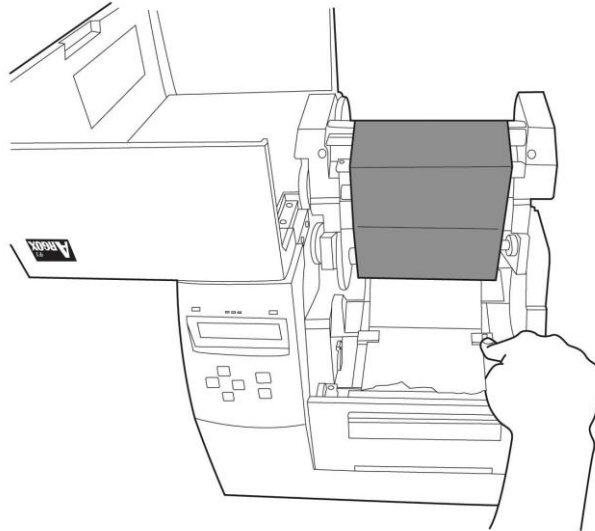

Figure 11
5. Hold the print head module upward to let the media pass under it. Lead the media through the media guides with the other hand. Adjust the media guide to the media width by pushing the button located on the media guide. (Figure 11)